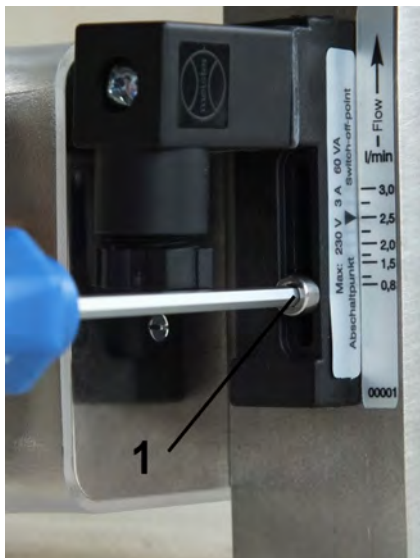

Fig. 34: Loosen set screw
1. ➤ Loosen the switch contact set screw (Fig. 34/1) using a hex screwdriver.
3. ➤ Re-tighten the switch contact set screw (Fig. 34/1) using a hex screwdriver. Observe the correct tightening torque.